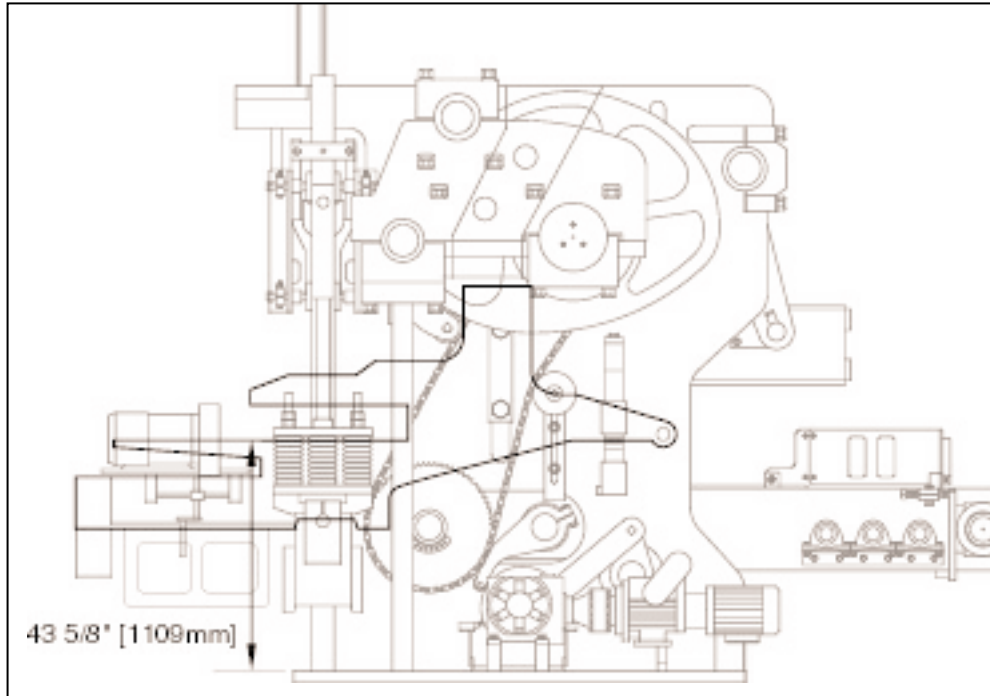

Figure 4.19 INNER FRAME ADJUSTMENT.
4.2.3 Adjust the inner frame so that the mold throat is **43 5/8" [1109mm]** above the top on the base plate (figure 4.19). **2 1/4" [57mm]** of spacers are required. To do so, follow these procedures: